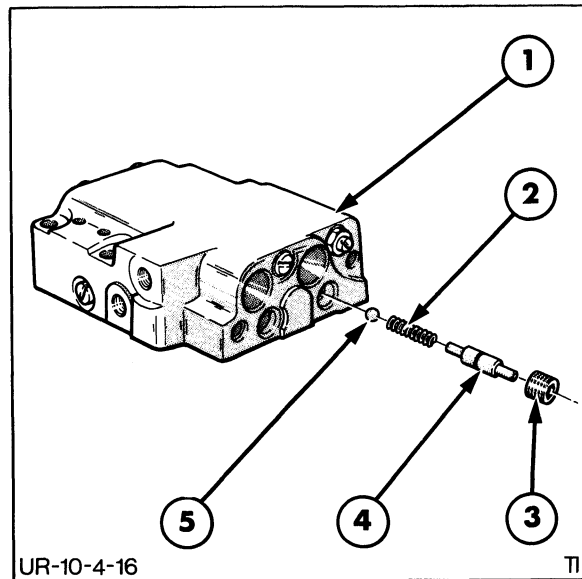

FIGURE 8-84
1. Remove the check valve retaining set screw and remove the plug, spring and ball, Figure 8-84.